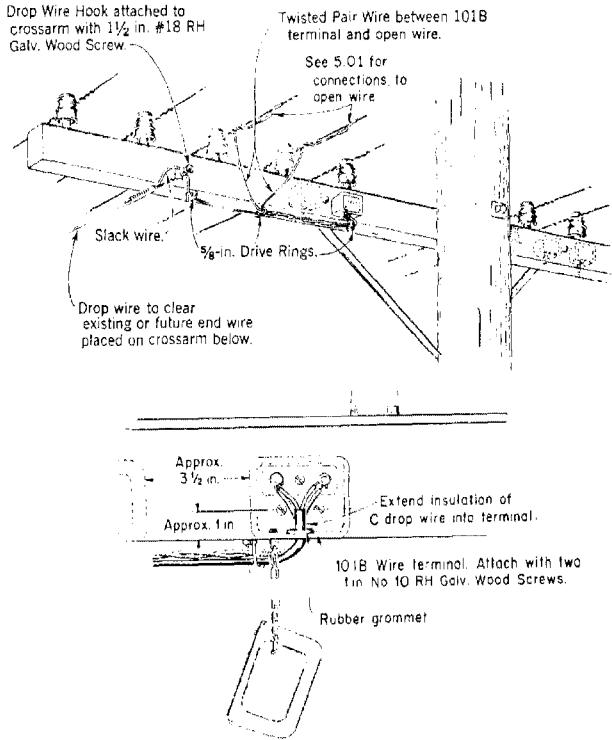

Fig. 1 – Where Drop Wire Is Distributed from Crossarms Other than DE Type
4.10 The wiring arrangement on crossarms equipped with insulator pins is illustrated in Fig. 1, 2, and 3.